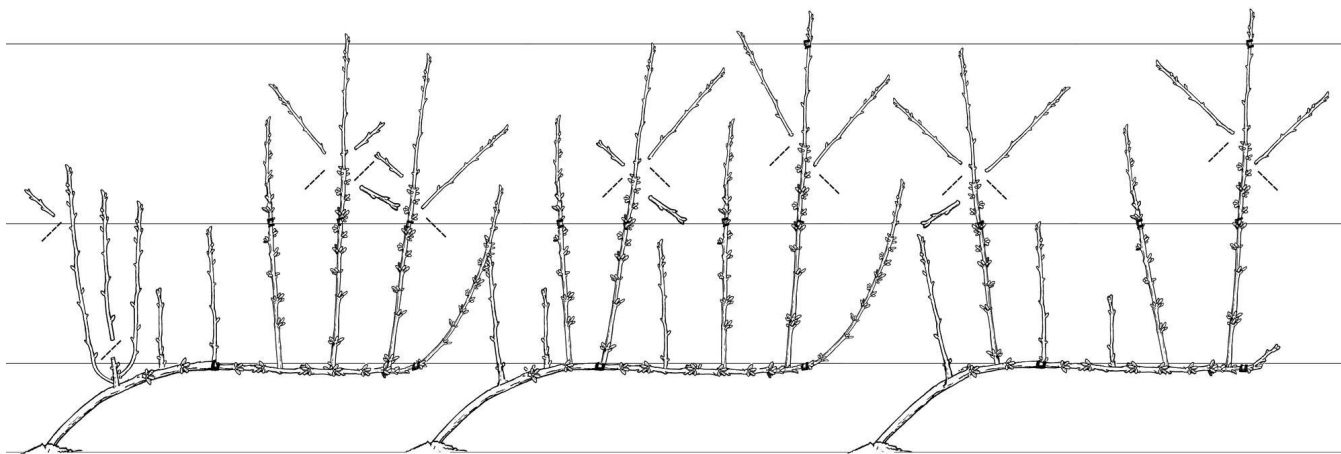

Figure 68
- For highly productive varieties, remove all lateral shoots on upright leaders with thinning cuts (Figure 68); on moderately productive varieties, remove all lateral shoots on upright leaders with stub cuts (i.e., leaving three to